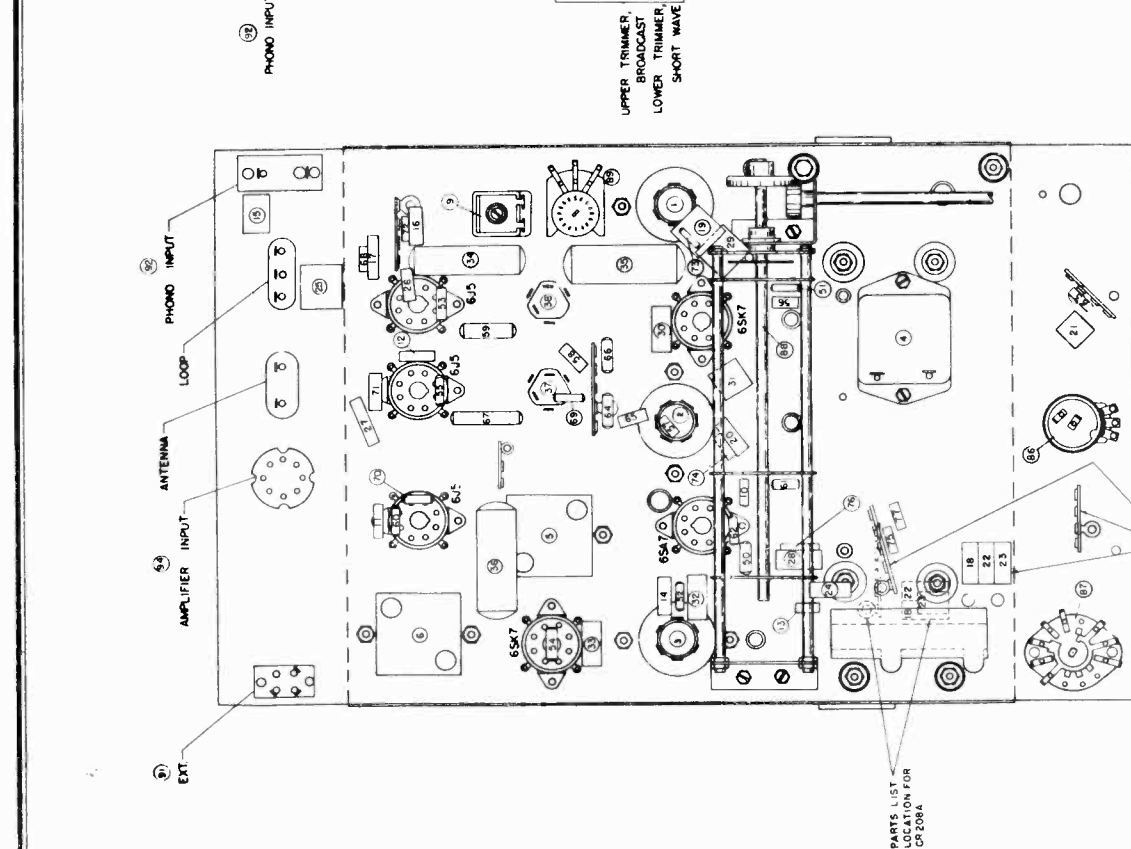

FIGURE 7
The alignment of this receiver requires the use of an accurately calibrated i-f signal generator and an output meter. All trimmer, condenser locations are shown on the chassis layout diagram, Figure 7. The radio volume control should be turned to maximum and the signal generator output kept as low as possible during alignment to prevent the AVC from operating and giving false readings. Always set the Treble Control to SHARP TUNE before aligning the i-f stages. This is done by turning the Treble Control Knob to the No. 1 position.
4. On some models of the CR-207 chassis, the two i-f trimmers are located in the top of the respective i-f transformers as shown in the layout diagram Figure 7. In other models, one trimmer is accessible from the top and the other from the bottom of each transformer.